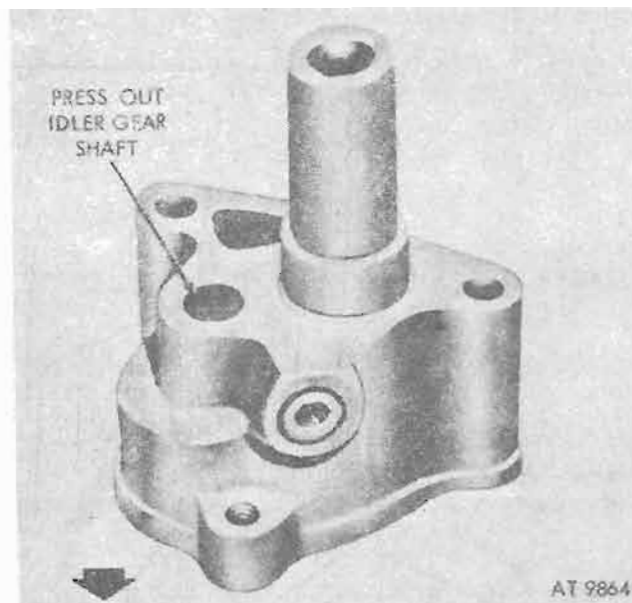

Figure 4-190. Oil pump idler gear shaft.
f. Remove Idler Gear Shaft. Press oil pump idler gear shaft out of oil pump body with arbor press and suitable adapter. Refer to figure 4-190.